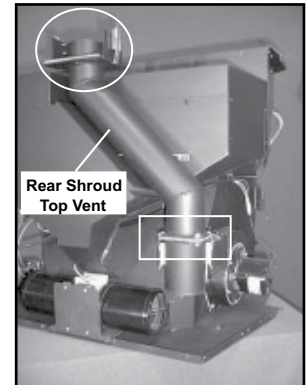

Figure 17.3
3. Use (2) 1/4 - 20 x 3/4" bolts with nuts to install rear shroud top vent to the exhaust transition. See boxed area in **Figure 17.3.** (Circled area, top vent adapter, will be installed later).
7. **For Top Vent Installation:** Install 3 inch or 4 inch (76 or 102mm) top vent adapter. See circled area in **Figure 17.3** on page 17. **NOTE:** This adapter may be attached to outside venting prior to latching it on to the top vent pipe.